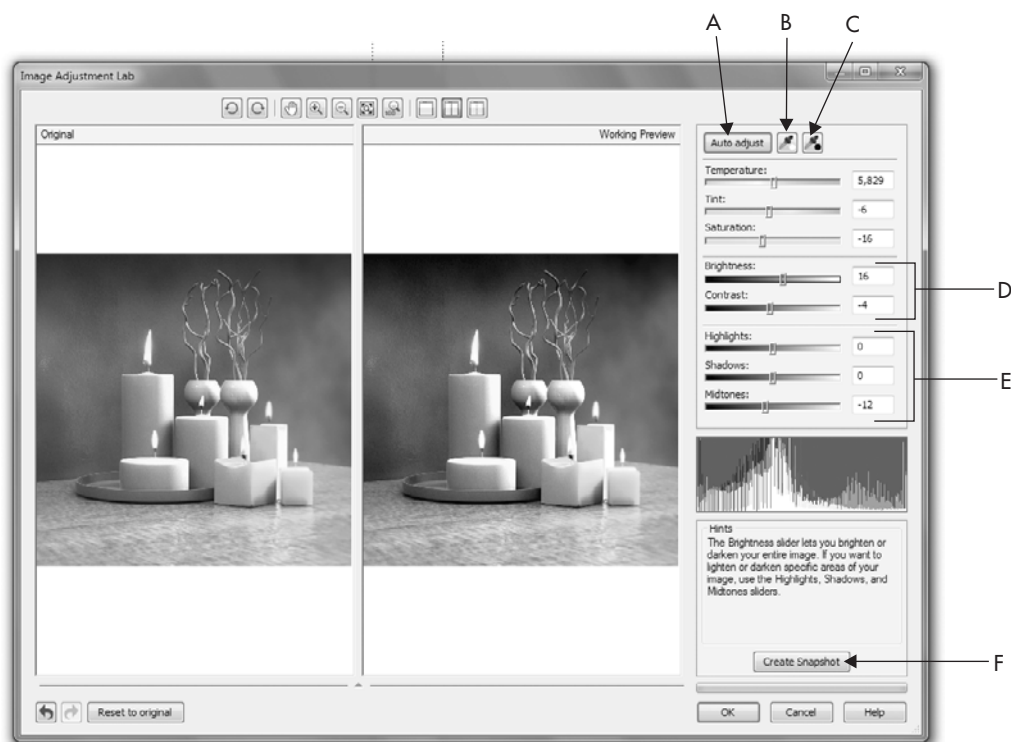

FIGURE 23-6 Color- and tone-correction can be performed on photographs with CorelDRAW.
5. In Figure 23-6 you'll see a lot of the same navigation controls as you saw in the Camera RAW Lab. However, the Image Adjustment Lab has slightly different features for color and tone adjustments. Always shoot for tone correction for exposure, and then work on the color if necessary.